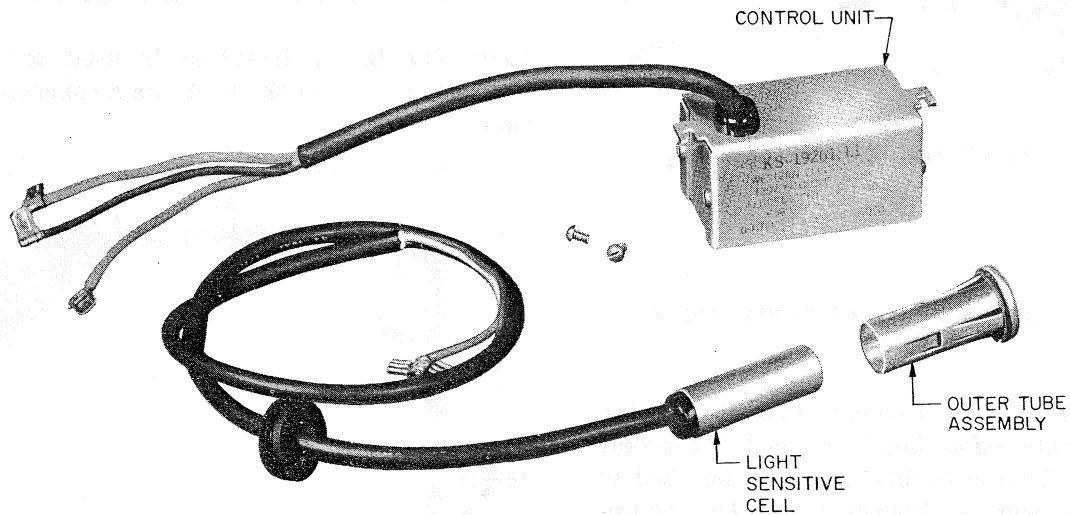

Fig. 6 — KS-19261, List 1 Light Control
7.02 The KS-19261, List 1 light control (Fig. 6) is available for assembly in the booth to turn the lamps on in the evening and off in the daylight. The light control will be shipped attached to booth only if specified in ordering information. The KS-19261 light control is covered in section 508-825-100.